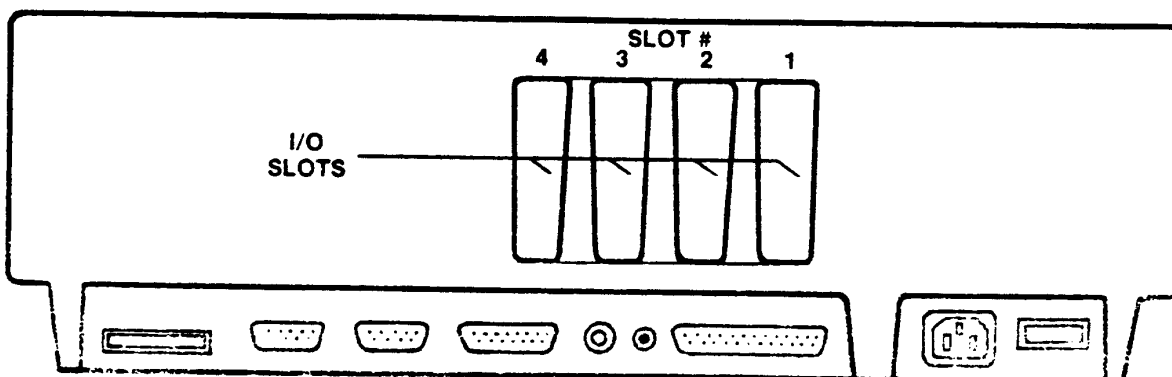

FIGURE 2.1
3. Locate the desired peripheral card. Refer to Figure 2.1 for slot number assignment. Disconnect all cords or cables connected to the peripheral card or cards to be removed.